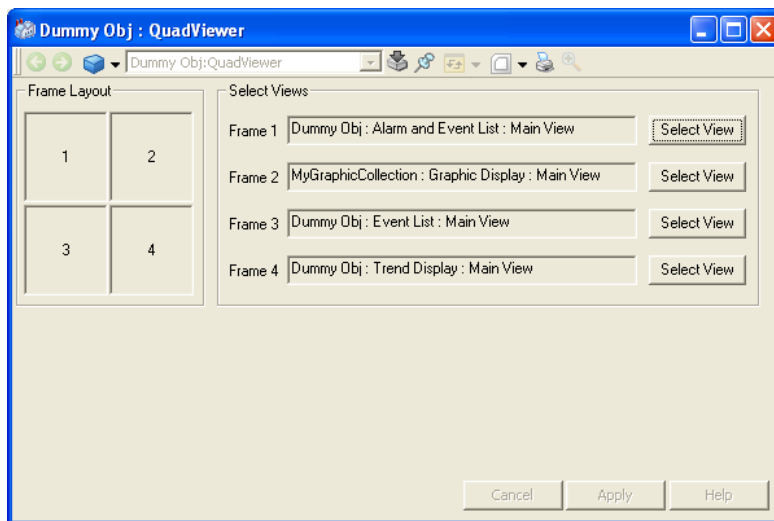

Figure 97. Configuration View of the Quad Display
2. Open the Quad Display aspect Config View. Click **Select View** to select wanted structure, object, aspect and aspect view for the four different frames. See Figure 97. It is not possible to select aspects of the categories Quad Display and Faceplate.